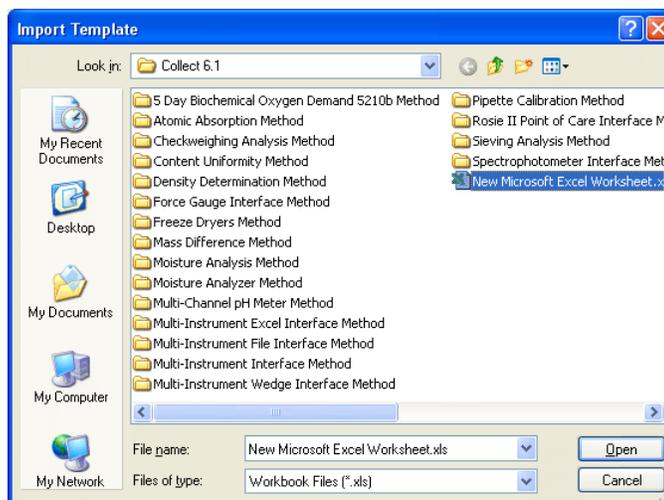

Figure 3.3: Locate the template
2. The cursor will be flashing in the File Name text box. Type in the name of the previously configured workbook or browse the file system to locate the file. (See Figure 3.3) Click on the configured workbook.